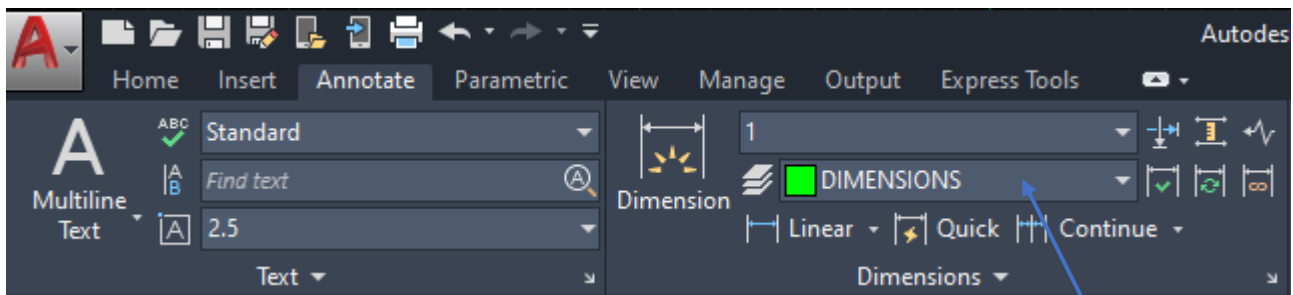

Figure 7. Annotate view
1. Go to the Annotate tab in AutoCad (Figure 7)